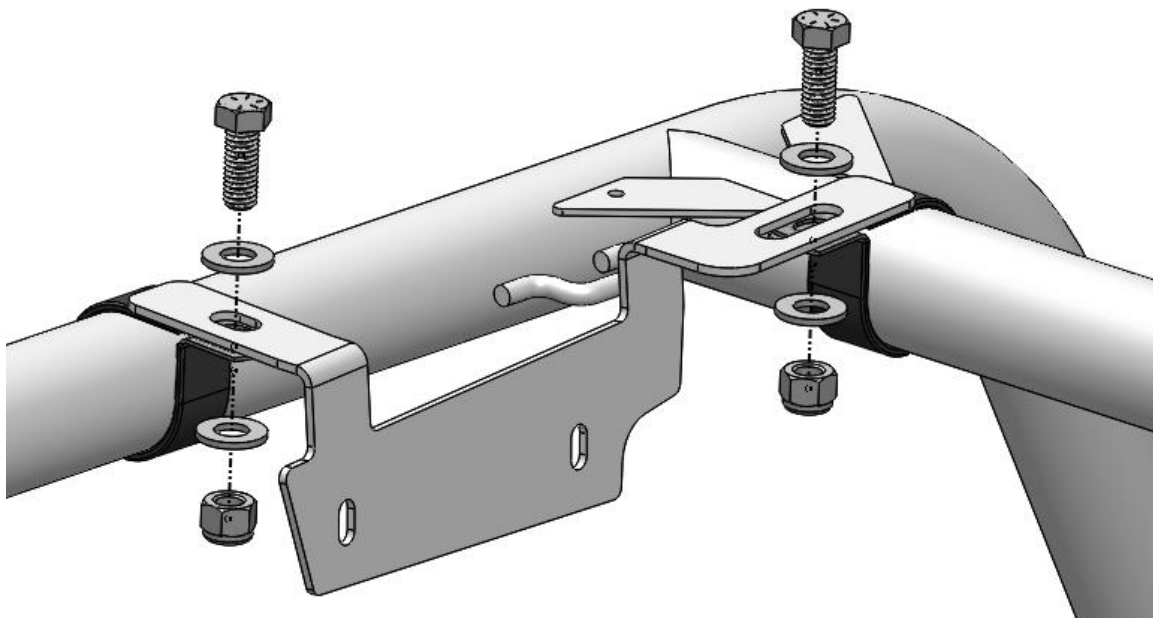

Figure 3: Mount the bracket to the loop clamps. Driver side shown. (Passenger side similar)
3. Place the driver's side bracket on the loop clamps, using the supplied 3/8"-16 bolts, washers, and nyloc nuts to secure the loop clamps to the mounting bracket. Loosely secure the nuts, waiting to fully tighten until the *Audio Mini* is in the desired position. See Figure 3. Note: Driver side shown. (Passenger side similar)
6. Tighten all 4 loop clamp bolts, to fully secure them to the *Audio Mini* mounting brackets, after achieving the desired viewing position. Slots in the brackets allow for front-to-back adjustability. See Figure 3. Torque the bolts to 25 ft.-lbs.